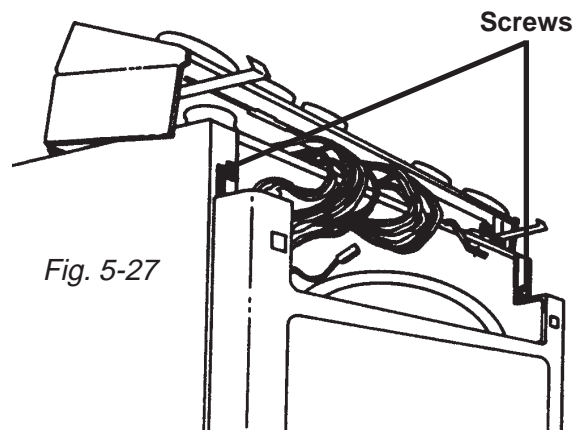

Fig. 5-27
4. Remove the Control Panel from the Front Panel and set it on top of the unit. (Fig. 5-27)